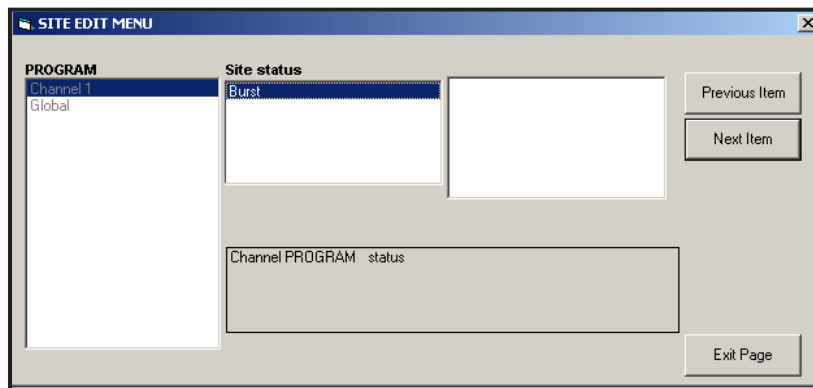

Figure 44: Status Option in the Channel Menu
2. Highlight and double-click on the Status option in the center pane. The window now appears similar to Figure 44.